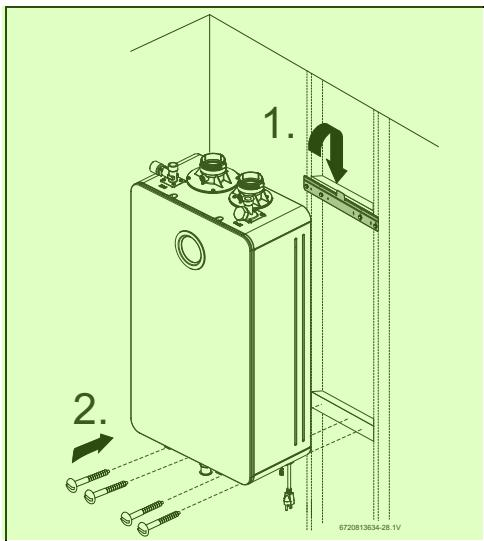

Fig. 9 Mounting the heater 4
- Hang the appliance on the bracket, see fig. 9, page 18.